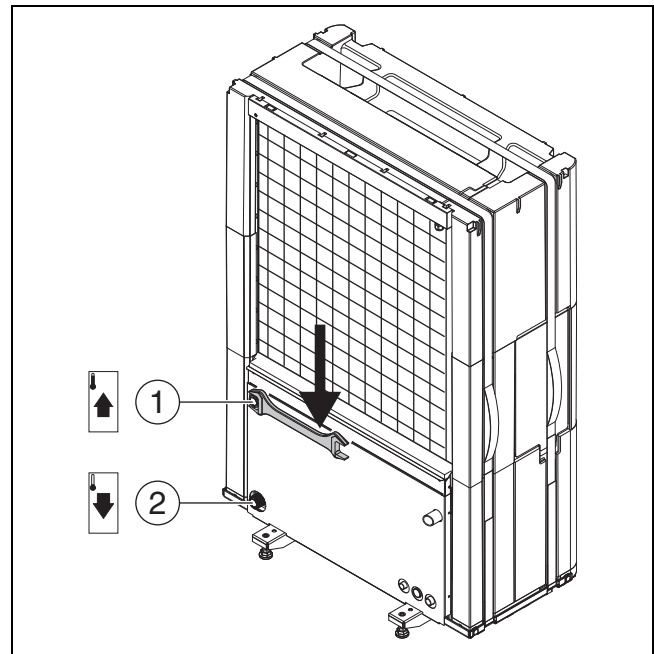

Fig. 13 Connections of heat carrying medium pipes, valid for all sizes
- ▶ Connect flow to the indoor unit at the heat transfer medium outlet of the heat pump (→ [1], Fig. 13).
- ▶ Connect return from the indoor unit at the heat transfer medium inlet of the heat pump (→ [2], Fig. 13).
- ▶ Tighten connections of the heat transfer medium pipes with a starting torque of 120 Nm. Direct the force downwards (→ Fig. 13) to avoid lateral loading of the condenser. If the connection does not seal properly, the joint can be tightened with a starting torque of up to 150 Nm. If the connection is still not tight, this indicates that the gasket or connected pipe is damaged.